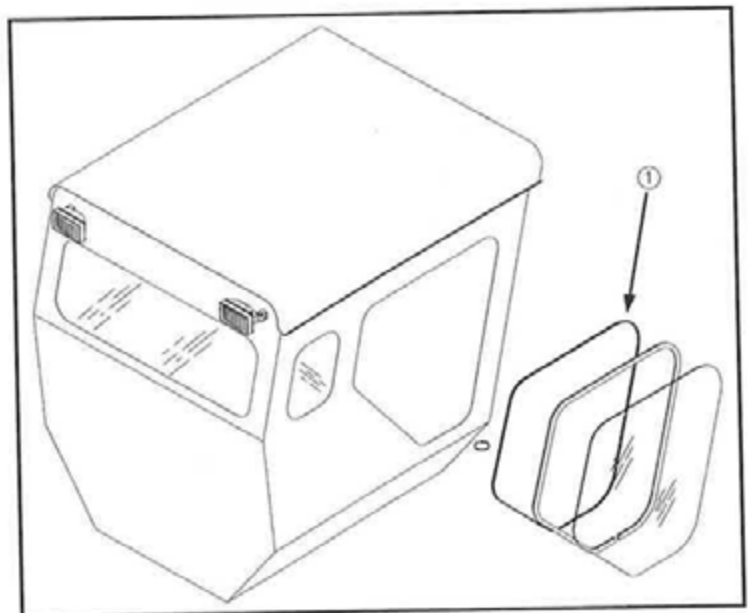

FIG 5.75
1. Grasp and pull the tag of the nylon ring next to the emergency exit decal (fig. 5.74) to remove the extrusion cord (fig. 5.75, item 1).